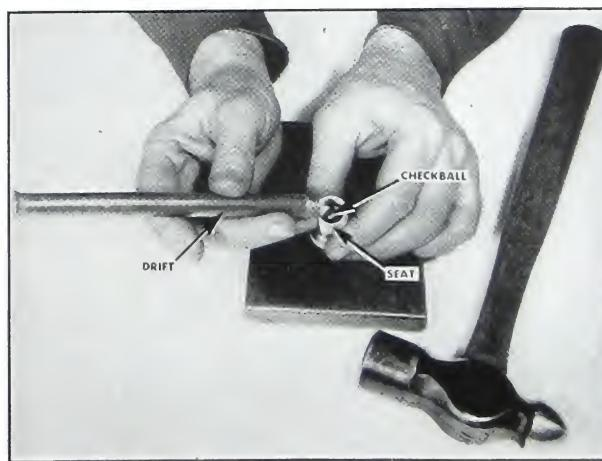

Fig. 5-278. Seating check ball
3. Use a light hammer and a brass drift to reseat the $1\frac{3}{32}$ " check ball. Fig. 5-278.